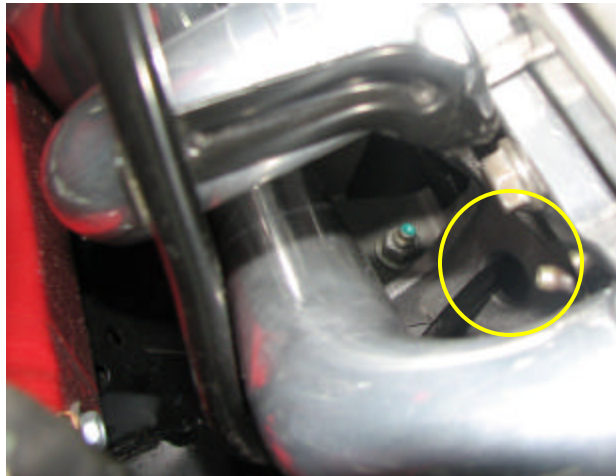

Figure 6: Dipstick tube through hole in frame
18. Next, raise the car back up again, and slide the dipstick tube back into the block from below the car. DO NOT bolt it to the engine just yet. Be sure that the dipstick tube is placed back through the hole in the frame (Figure 6).